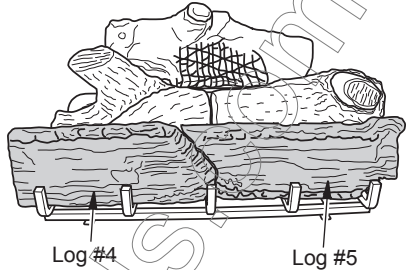

Figure 25 - Installing Logs #4 and #5
3. Place log #4 and log #5 onto front grate bracket (see Figure 25).